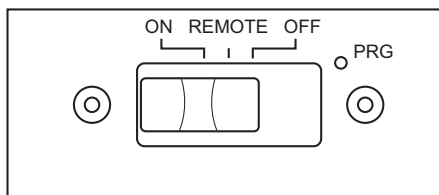

Figure 42 - Remote Selector Switch in ON Position
- Wait one minute and switch selector switch to the ON position to light burners (see **Figure 42**). When using in the ON position (without remote) burners will light on high. There is no adjustment to the flames without using remote.